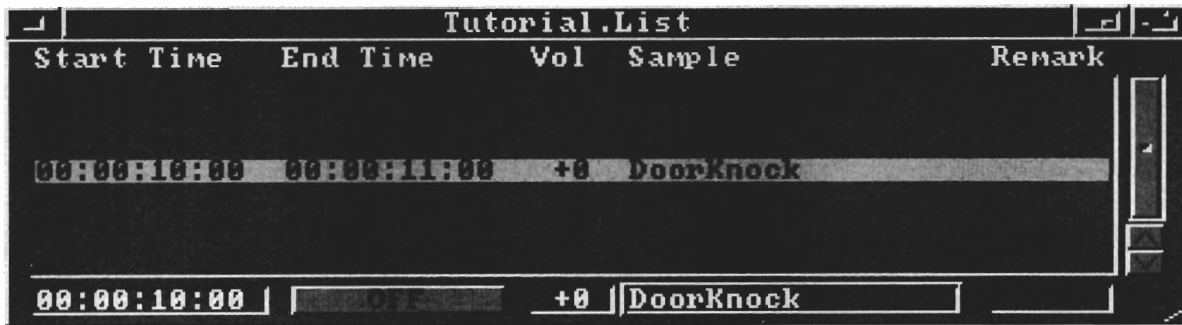

Figure 6-1. Tutorial. List
5. If you dragged the samples in a different order, you may have to shuffle them around to have them look like Figure 6-1. Change the start time of an entry, by typing in the Edit Line, will causes the Cue List to resort by start times. You can also use the menu commands Add and Delete Entry to reorganize your list.
8. Once the Cue List looks like Figure 6-1, you are ready to trigger.